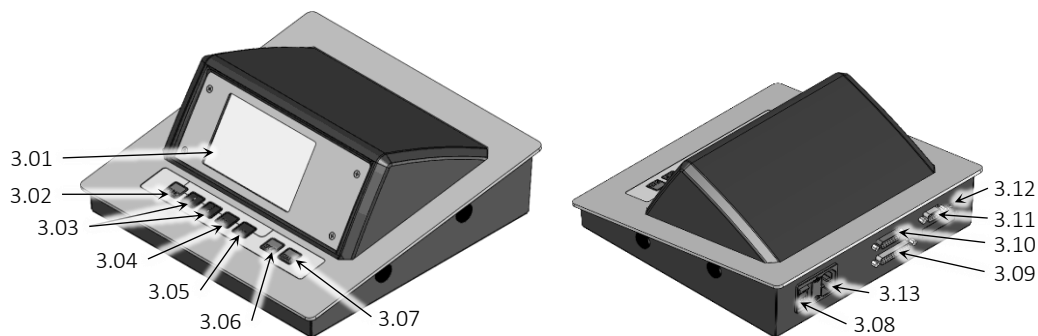

Fig. 11 Front side,
- Press FUNC-key (3.02, Fig. 11) until display reads **Config**.
- The display (3.01, Fig. 11) reads the input mode e.g. **Mode : Std.** (factory setting).
- Confirm the selected Mode by the OK-key (3.05, Fig. 11).
- Confirm by OK-key (3.05, Fig.11) or put in another measuring time by the arrow keys and confirm by OK-key.